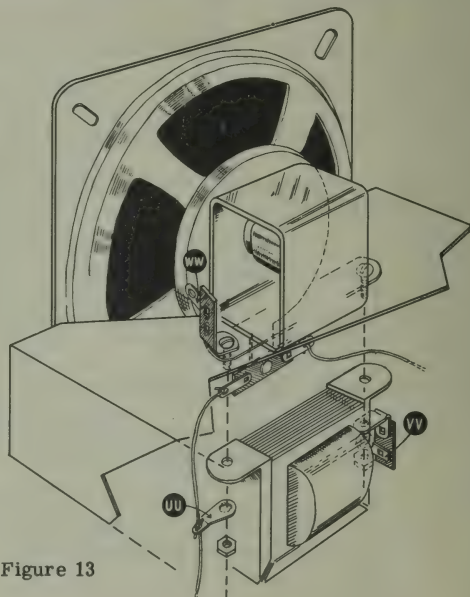

Figure 13
- (✓) Connect the wire coming through the hole beneath the volume control VC to lug 1 on the pilot lamp SS (S).
- (✓) Connect a wire from SS2 (S) to TT1 (S).
- (✓) Connect a wire from TT2 (S) to the ground lug FF on top of the chassis near socket H (S).
- (✓) Mount the speaker and output transformer at position U as shown in Figure 13, using 6-32 hardware. The speaker is mounted above the chassis and the output transformer below. The red and blue wires on the output transformer should face the inside of the chassis and the two uninsulated wires face the speaker cutout. Mount a 1-lug terminal strip under the screw on top of the chassis holding the end of the speaker nearest the panel. Mount a solder lug under the nut on the same screw, beneath the chassis.